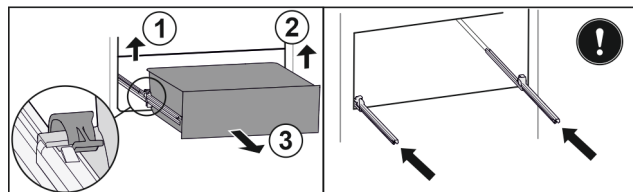

Fig. 86
- ▶ Lift left clamp and simultaneously pull drawer forwards on the left. Fig. 86 (1)
- ▶ Lift right clamp and simultaneously pull drawer forwards on the right. Fig. 86 (2)
- ▶ Remove drawer to the front. Fig. 86 (3)